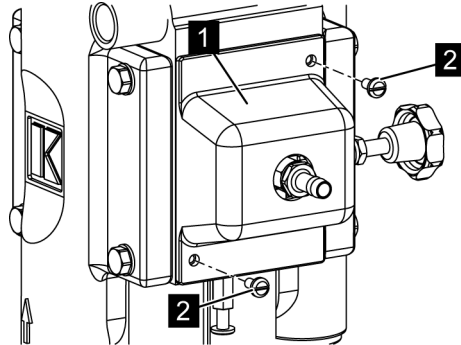

Fig. 19: Cover hood
- 15.** ▶ Lightly grease the screws (Fig. 19/2)
- 16.** ▶ Put on the cover hood (Fig. 19/1) and fasten it in place with the screws (Fig. 19/2).